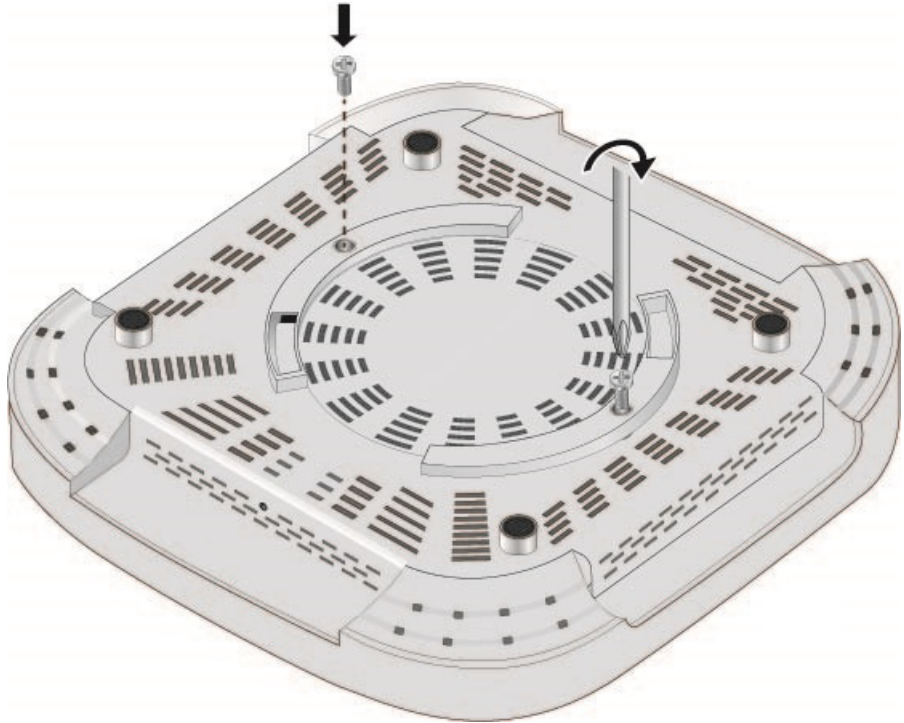

Figure 11. Attaching the Bracket Screws to the Wireless Access Point
1. Install the two screws (provided) in the bottom side of the access point chassis. Leave the screws loose enough so that you can slide the bracket under the screw heads. Refer to Figure 11.